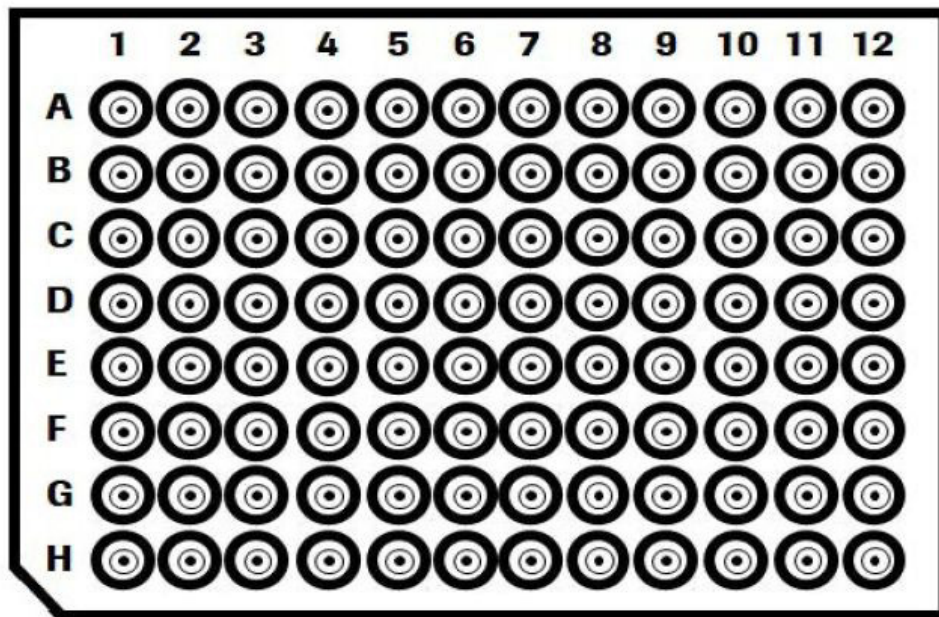

Figure 1: KAPA UDI Primer Mixes Plate layout
3. Before removing the foil cover, please ensure the plate is in the correct orientation before proceeding. In order to have well position A1 on the top left corner, the notched corner must be facing the user on the bottom left as shown in Figure 1.